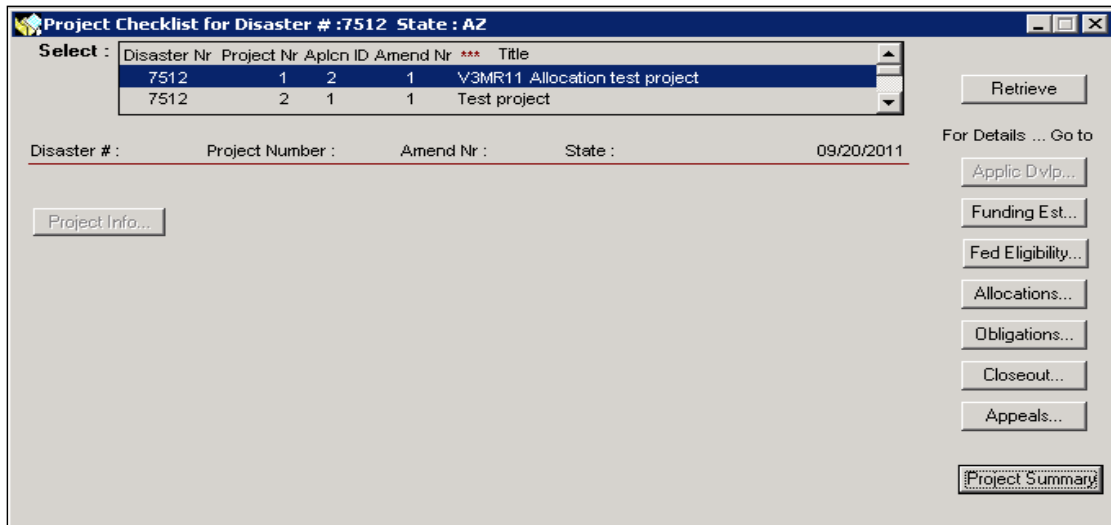

Figure 11-25: Project Checklist Select Field
- In the Select field, scroll down to select the project whose checklist you wish to view (Figure 11-25).